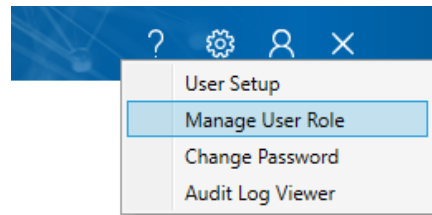

Figure 30: Accessing the Manage User Role Application
1. Click the Admin icon  located on the Synergy title bar and select **Manage User Role** (Figure 30).